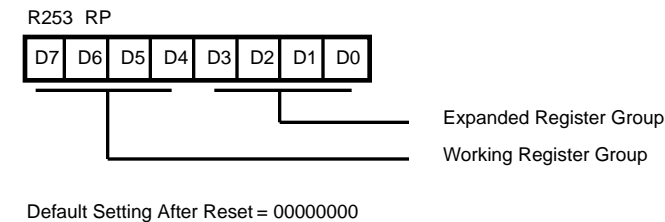

Figure 21. Register Pointer Register
The instructions can access registers directly or indirectly through an 8-bit address field. The Z86C61/62/96 also allows short 4-bit register addressing using the Register Pointer (Figure 21). In the 4-bit mode, the Register File is divided into 16 working register groups, each occupying 16 continuous locations. The Register Pointer addresses the starting location of the active working-register group.
**Expanded Register File.** The register file has been expanded to allow for additional system control registers, and for mapping of additional peripheral devices along with I/O ports into the register address area. The Z8 register address space R0 through R15 has now been implemented as 16 groups of 16 registers per group. These register groups are known as the ERF (Expanded Register File). Bits 7-4 of Register RP select the working register group. Bits 3-0 of Register RP select the expanded register group (Figure 21). Eight I/O port registers reside in the Expanded Register File at Bank F. The rest of the Expanded Register is not physically implemented and is open for future expansion.
Z86C61: (See Figures 21 and 22)